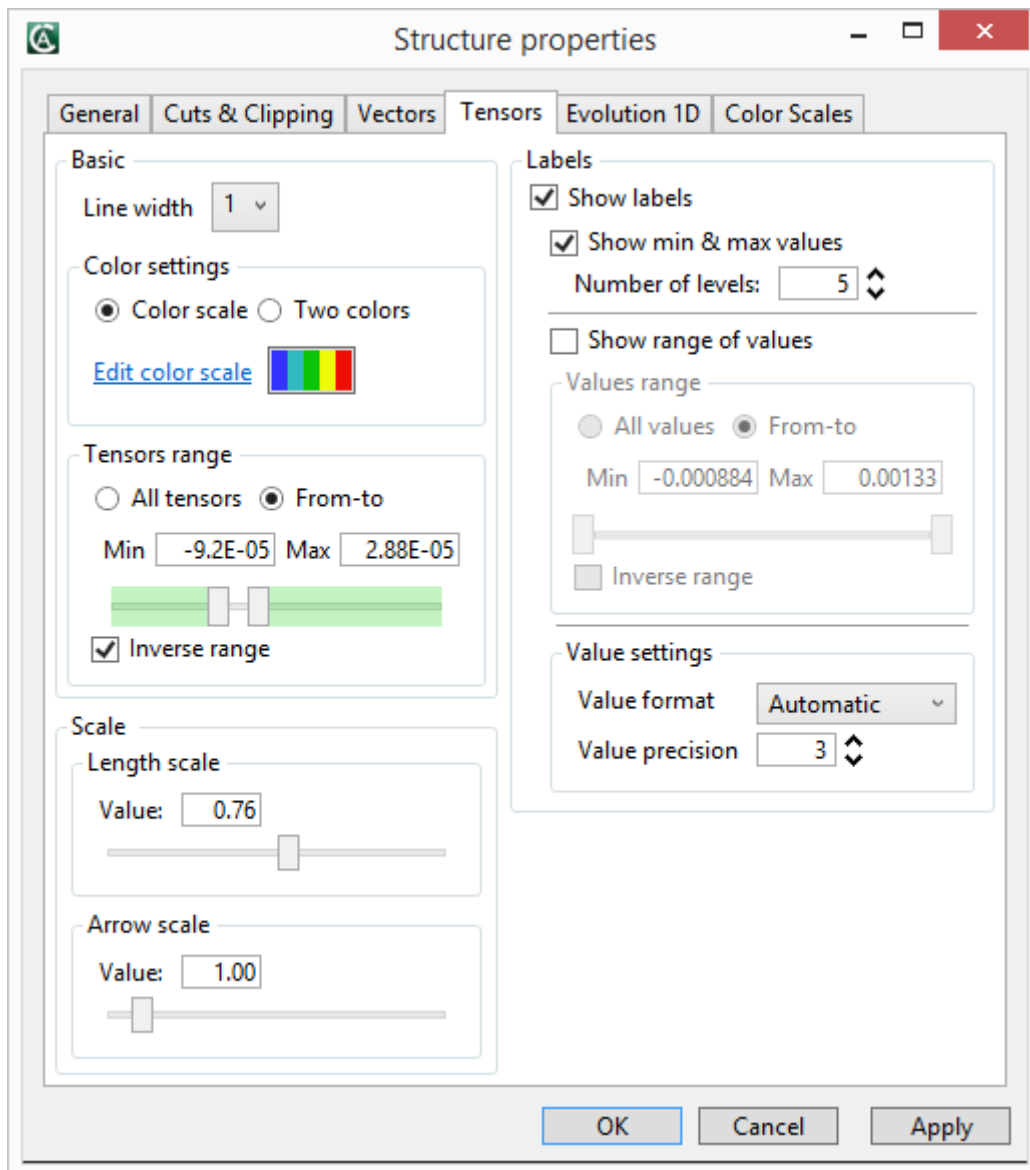

**Fig. 3-27 Structure properties. Vectors**
- settings of results displayed as vectors (see Fig. 3-27)